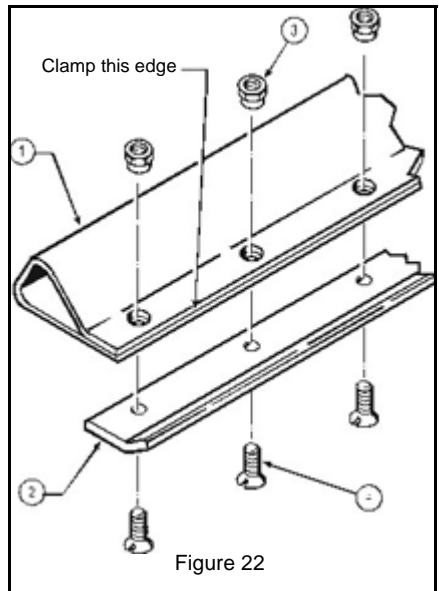

Figure 22
1. The backbar (1, Figure 22), bedknife (2, Figure 22), and fasteners have been assembled at the factory under tension. To ease replacement and prevent misalignment of components, you may wish to clamp the leading edge of the backbar two or three places before removing the old fasteners.
2. Remove shoulder nuts (3, Figure 22) and flathead screws (4, Figure 22). If shoulder nuts are badly rusted or corroded, they may have to be cut off and the screws driven out.